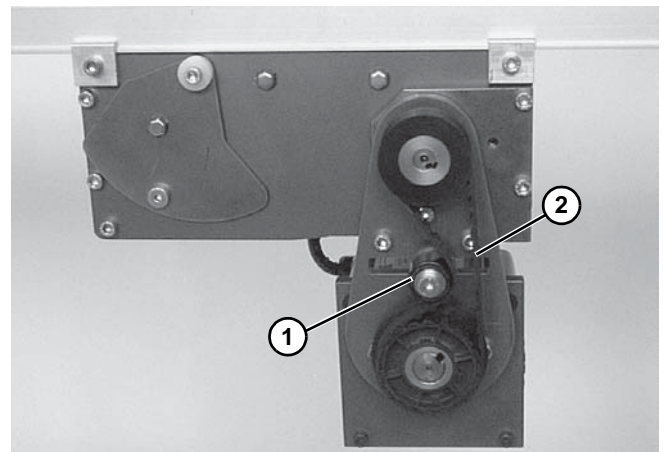

Figure 38
2. Loosen belt tensioner (**Figure 38, item 1**) then remove timing belt (**Figure 38, item 2**).